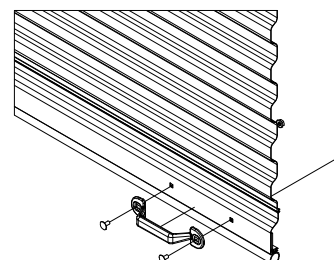

FIGURE 14:
- ▶ Install handle(s) on outside of bottom bar using $\frac{1}{4}$ - $20 \times \frac{5}{8}$ " carriage bolts and nuts. **See figure 14**.